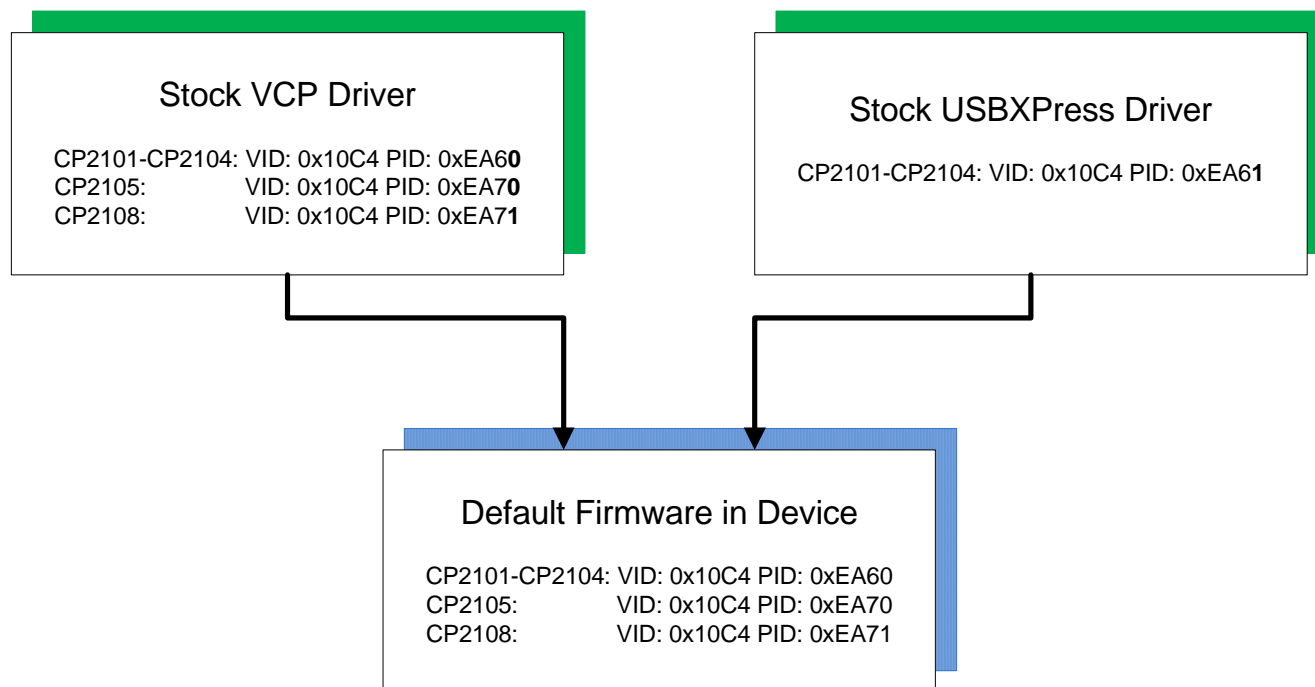

Figure 1. Default VID and PID Values for Driver vs Firmware
Figure 1 shows the default VID and PID values for the device and drivers. To establish communication with the driver, the VID and PID of the device must match the driver. Notice that the default CP210x device VID and PID match the default VCP driver VID and PID numbers.
4. **(USBXpress Users Only):** If the desired driver is USBXpress, it can be download here: www.silabs.com/usbexpress. This driver allows direct access using Silicon Labs API commands to control the device. When this driver is initially downloaded it will not have the matching VID/PID of the CP210x devices. See Figure 1 for the default driver and device VID/PID.